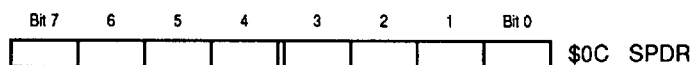

Figure 3-33. Serial Peripheral Data I/O Register
3.7.4.3 SERIAL PERIPHERAL DATA I/O REGISTER (SPDR). The SPDR (Figure 3-33) in the master MCU device is used to transmit data to and receive data from the slave device. Only a write to this register in a master will initiate transmission/reception of data. The data is then loaded directly into the 8-bit shift register where eight bits are shifted out on the MOSI pin to the slave while another eight bits are simultaneously shifted in on the MISO pin to the 8-bit shift register. At the completion of data transmission, the SPIF status bit is set. A write or read of the SPDR, after reading SPSR with SPIF set, will clear SPIF.